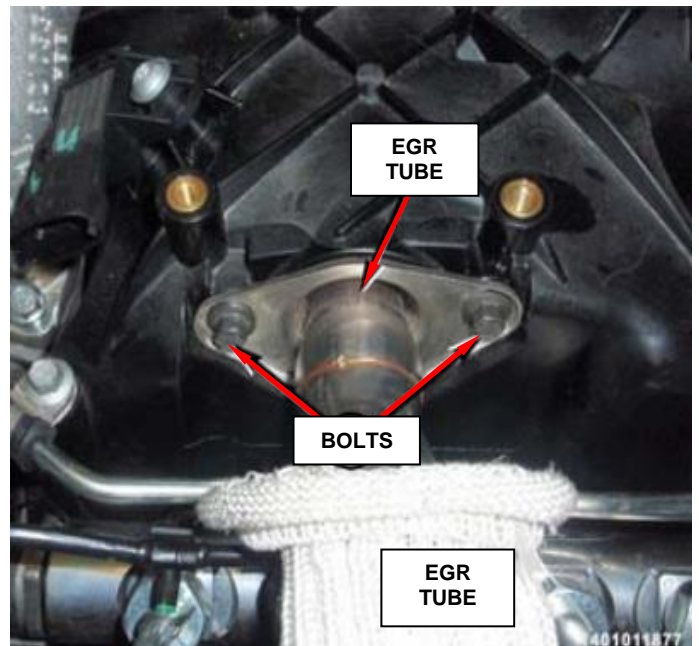

Figure 31 – EGR Tube Mounting
11. Remove the (2) bolts at the intake manifold and the EGR tube (Figure 31).